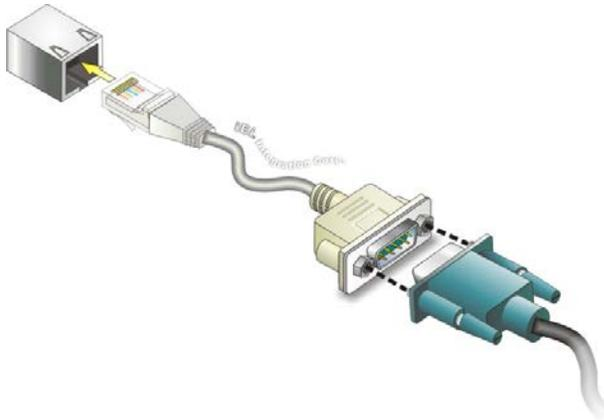

Figure 3-20: Serial Device Connector
Step 3: Insert the serial connector. Insert the DB-9 connector of a serial device into the DB-9 connector on the cable. See **Figure 3-20**.